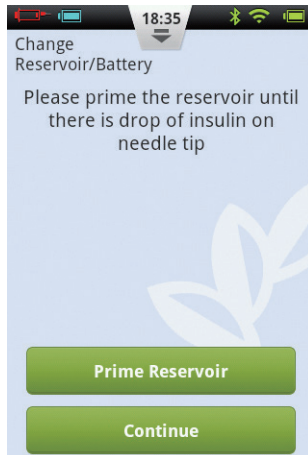

Figure 81
**3** Holding the pump in the orientation shown in Figure 82, press the Prime Reservoir button (Figure 81). The plunger will begin to move slowly. Continue to press the button until you see a drop of insulin on the needle tip (Figure 82). The background of the "Next" button will be enabled when it changes from grey to green. Press Continue to go to the next step.